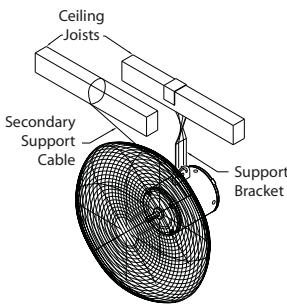
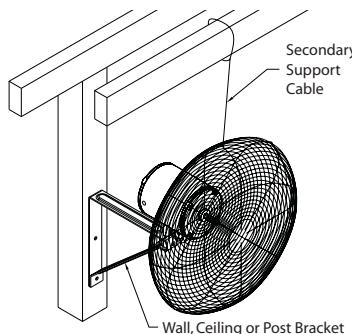

Figure 9 — Secure Cable to Nearest Support With Wall/Ceiling Bracket
Figure 10 — Secure Cable to Nearest Support With Suspension Bracket
4. Wrap the other end of the cable around a secure building joist, beam, truss or other support near the fan as shown in Figure 9 and Figure 10. Take up all excess slack in the cable. If the fan is an oscillating model and wall mounted, leave enough slack to allow free movement through range of motion.
5. Attach the two (2) remaining cable clamps as done previously in "step 2". The excess tail should be trimmed to